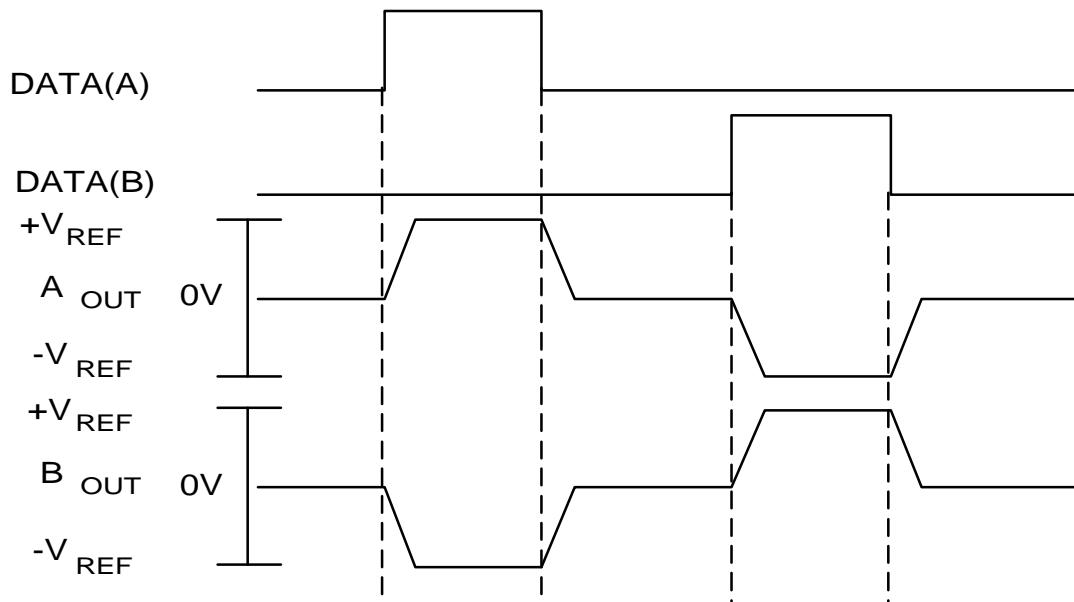

Figure 2: ARINC 429 Waveforms
429 Mode: In 429 mode, the serial data is presented on the DATA(A) and DATA(B) inputs in the dual rail format defined in the *MARK 33 Digital Information Transfer System – ARINC Specification 429-10*. The driver is enabled by the SYNC and CLOCK inputs. The output voltage level is programmed by the V_{REF} input and is normally tied to +5VDC along with V_1 to produce output levels of +5 volts, 0 volts, and -5 volts on each output for ± 10 volts differential outputs. *See figure 2.
DATA(A) DATA(B)	Logic inputs. These signals contain the Serial Data to be transmitted on the ARINC 429 data bus. Refer to Figures 2 and 3.
Figures 2 and 3 show the output waveforms for the ARINC 429 and RS-422 modes of operation.